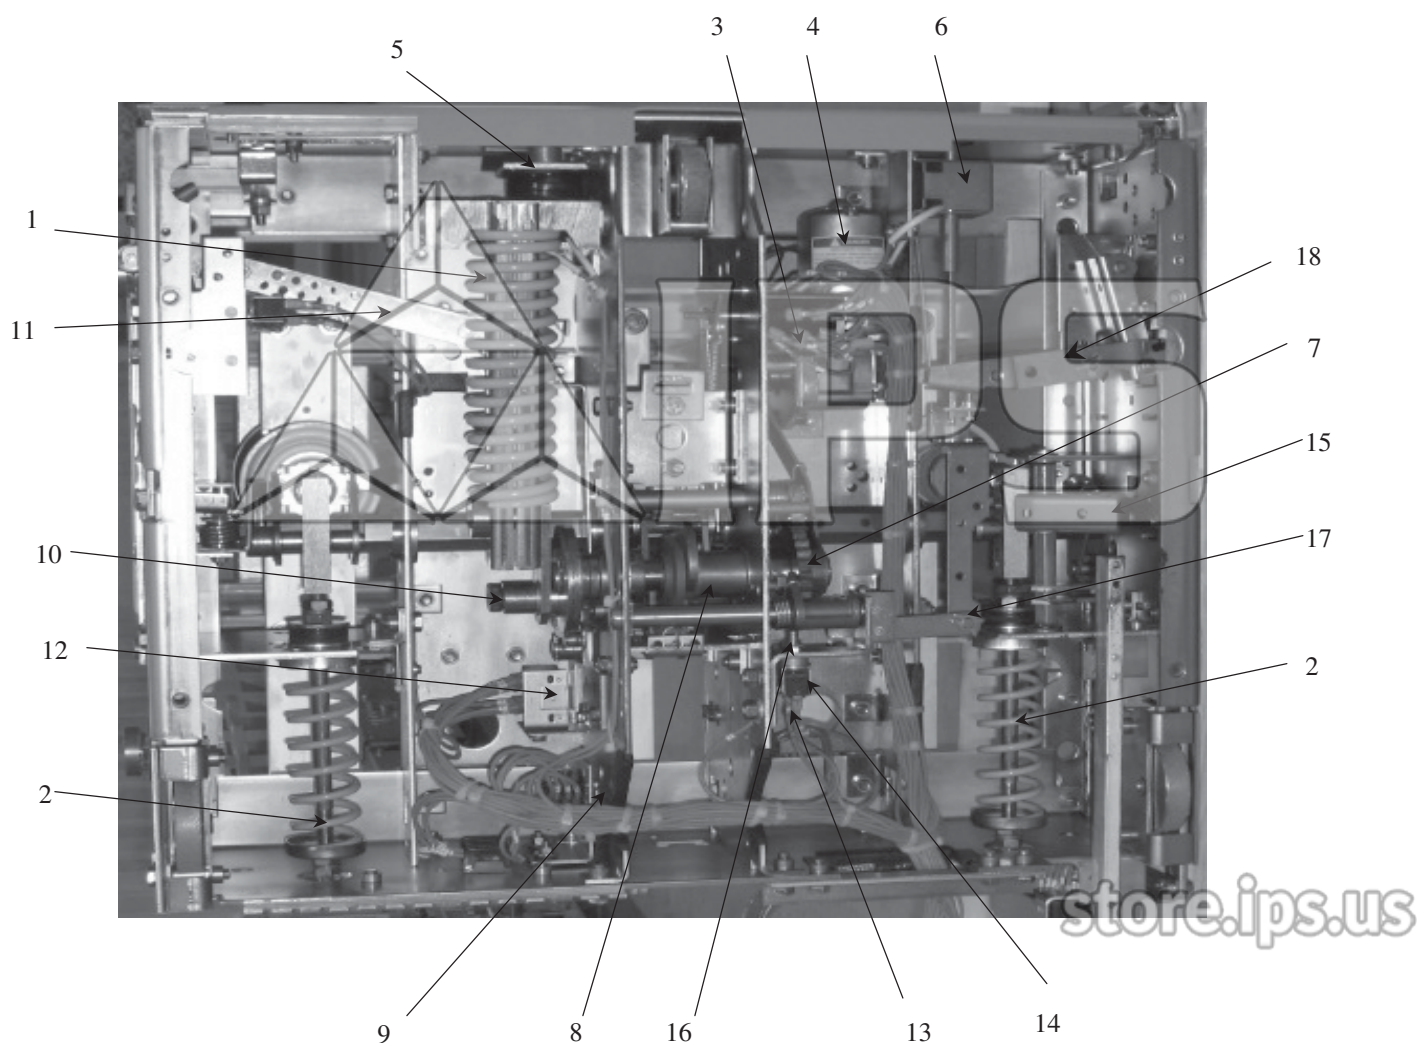

Figure 23 Bottom view of ML-18 mechanism
All PowerVac® circuit breakers with ML-18 mechanisms and a type designation ending in -0, -1 & -2 have an adjustment bolt for the close latch. The adjustment for the close latch stop bolt item (item16, Figure 23) is made with the breaker open and the closing spring charged.